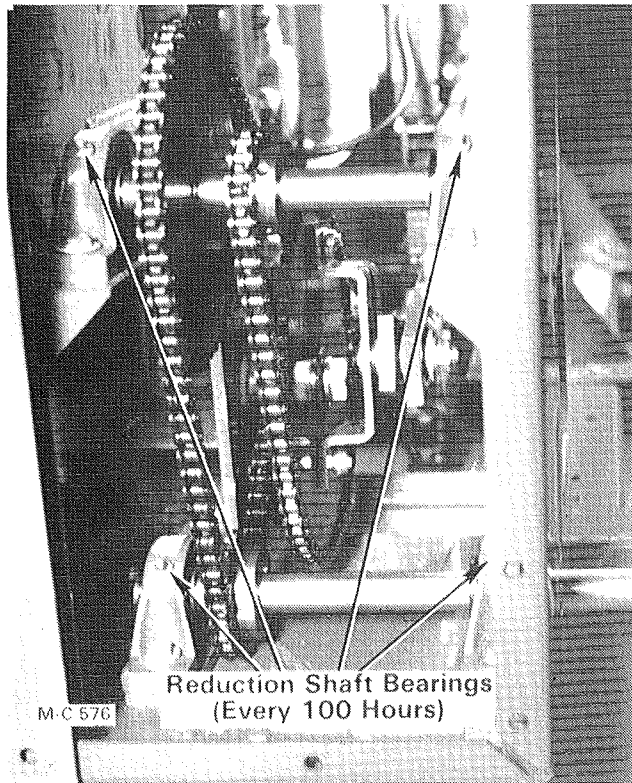

Figure 33
4. Lubricate the four bearings on the drive reduction base shafts, see Figure 33.